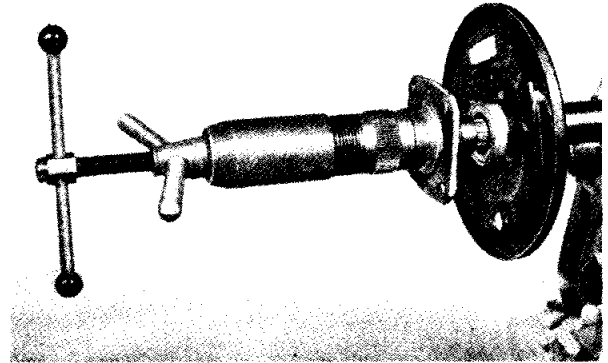

Fig. 5 The replacing of the knock on type hub utilising the Churchill Hub Replacing Tool No. S125. Shown with brake assembly removed for photographic purposes.
The axle shafts of the later production cars provided an interference fit with the hub splines. To facilitate the replacement of the hubs—the Churchill hub replacing Tool No. S125 was introduced (see Fig. 5). Should the axle shafts be out of the axle casing it will still be necessary to use the hub replacing tool or a fly press.
- (a) The axle shafts of later production cars provide an interference fit with the hubs. To facilitate the replacement of the hubs the Churchill hub replacing Tool No. S125 was introduced and is illustrated in Fig. 5.